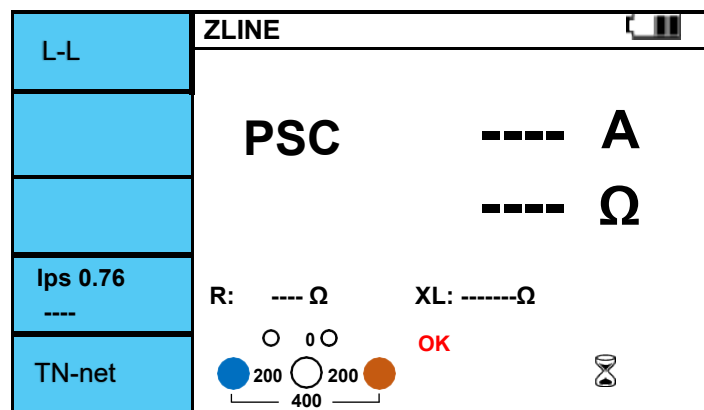

Figure 6.5.11 Z-line / L-L screen.
- If there is no problem with the test lead connection, "OK" is displayed as shown in Figure 6.5.11.